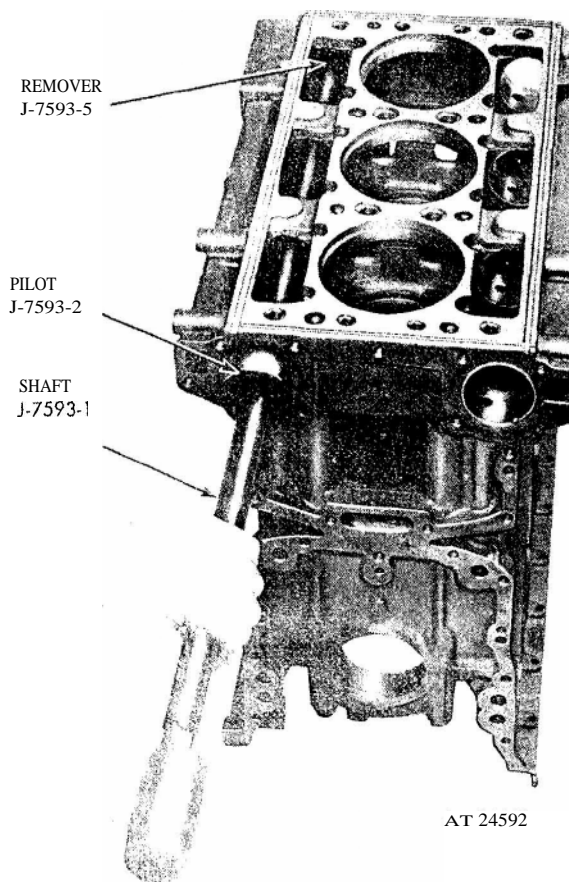

Figure 3. Removing end hearing.
1. Remove all accessories and assemblies with their attaching parts as is necessary so that tool set J 7593-03 may be used as shown in figure 3, and in A of figure 6. Tool set J 7593-03, designed for use with standard size bearings, may be used to remove and install .010" undersize and .020" undersize bearings by reducing the pilot diameter of the pilot J 7593-2, installer J 7593-3, remover J 7593-5, installer J 7593-6, and installer J 7593-15. The